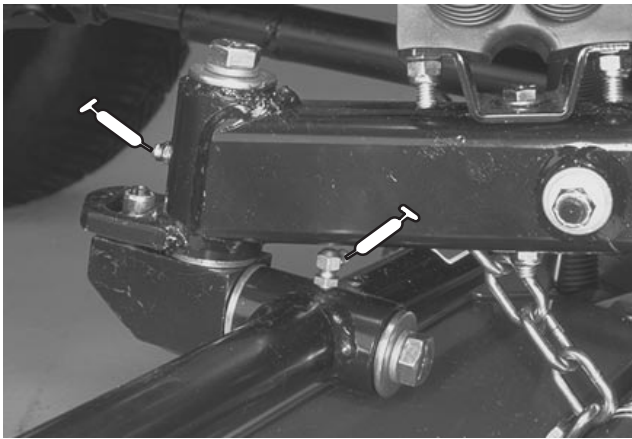

Figure 39
The grease fitting locations and quantities are: Engine Drive shaft (3), (Fig. 38); Cutting unit carrier frame and pivot (2 ea.), (Fig. 39); Lift arm pivots (5), Drive shaft clutch (1) (Fig. 40); Rear axle tie rod (2), Steering cylinder ball joints (2), Axle steering pivots (2) Rear axle pivot (1) (Fig. 41); Traction control linkage at transmission (1),